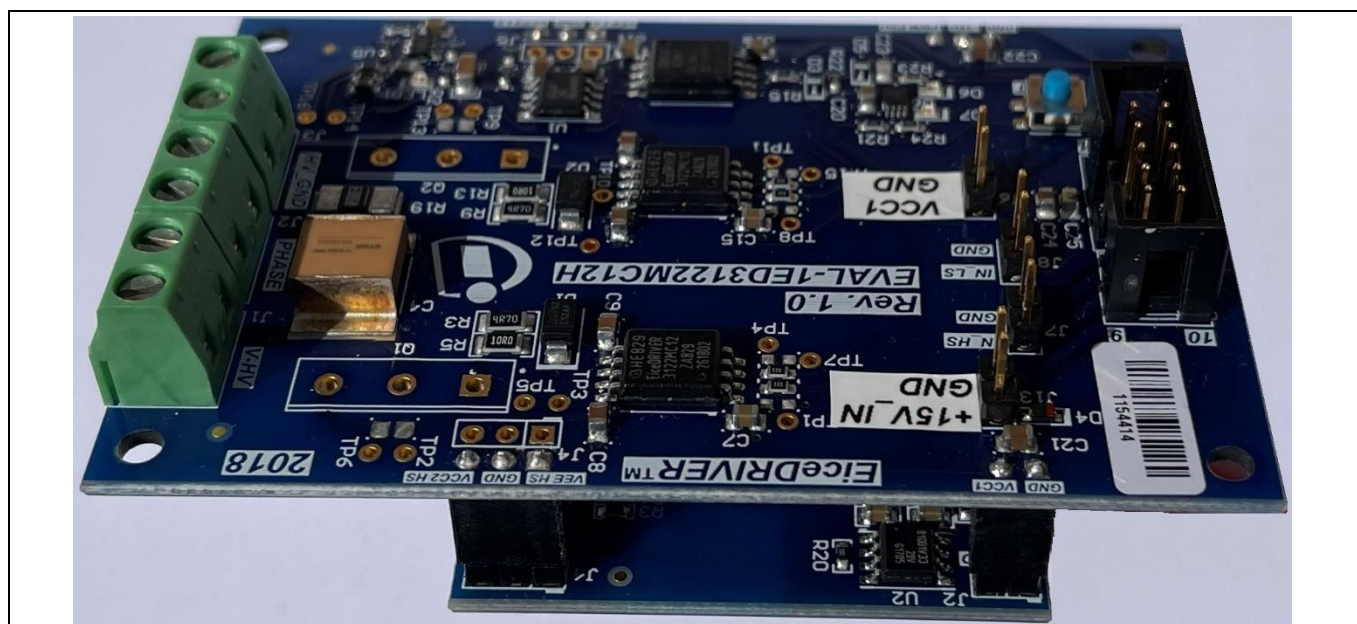
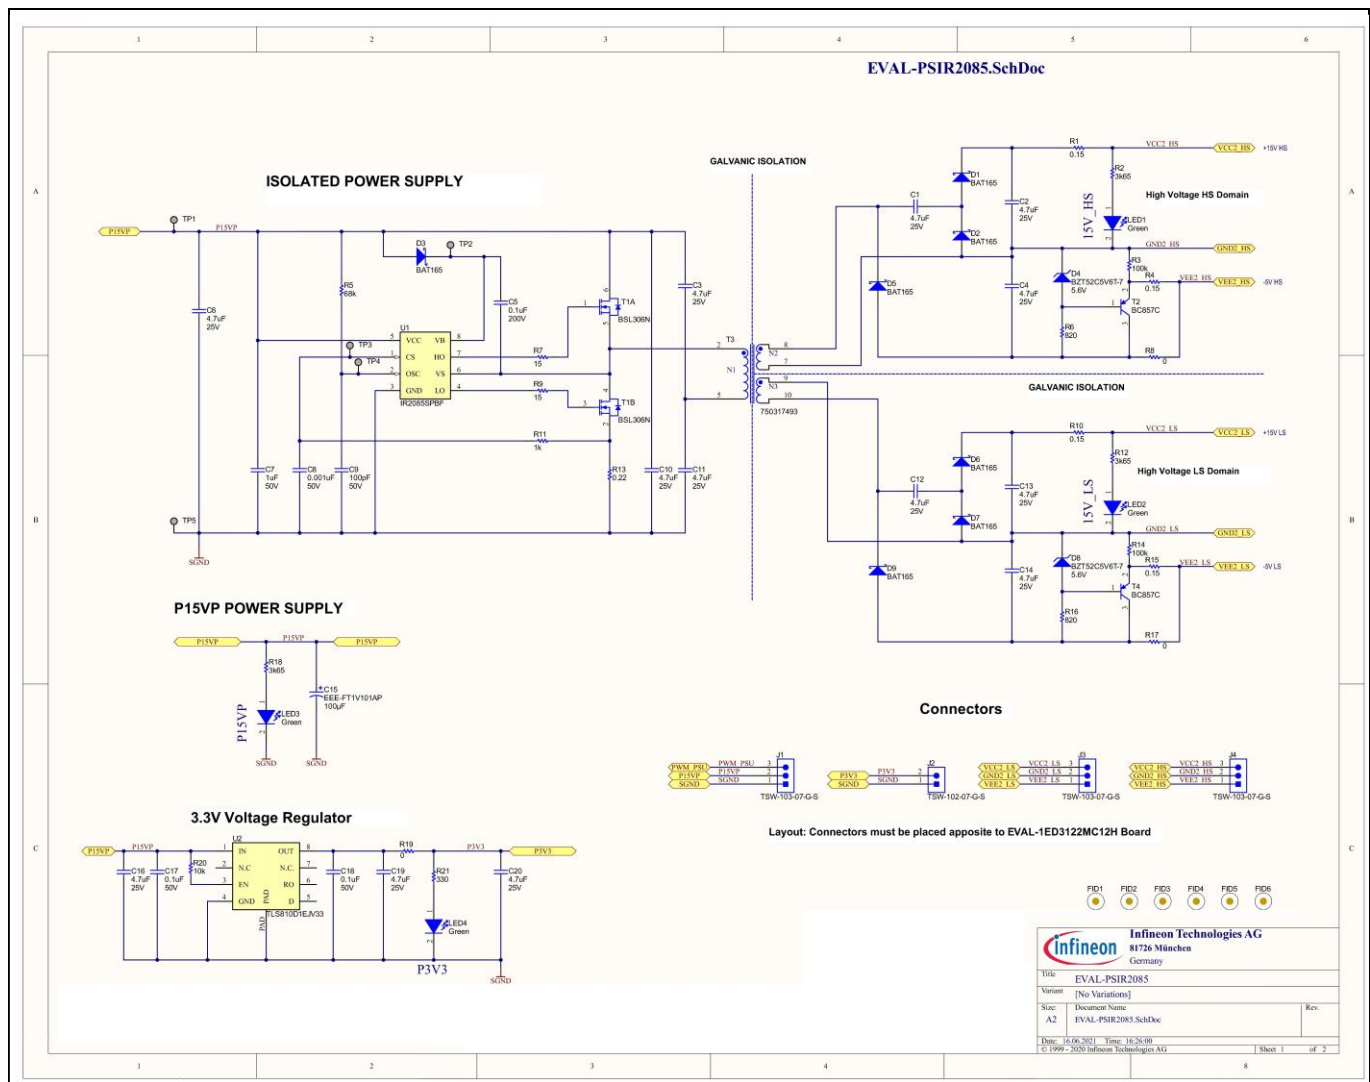
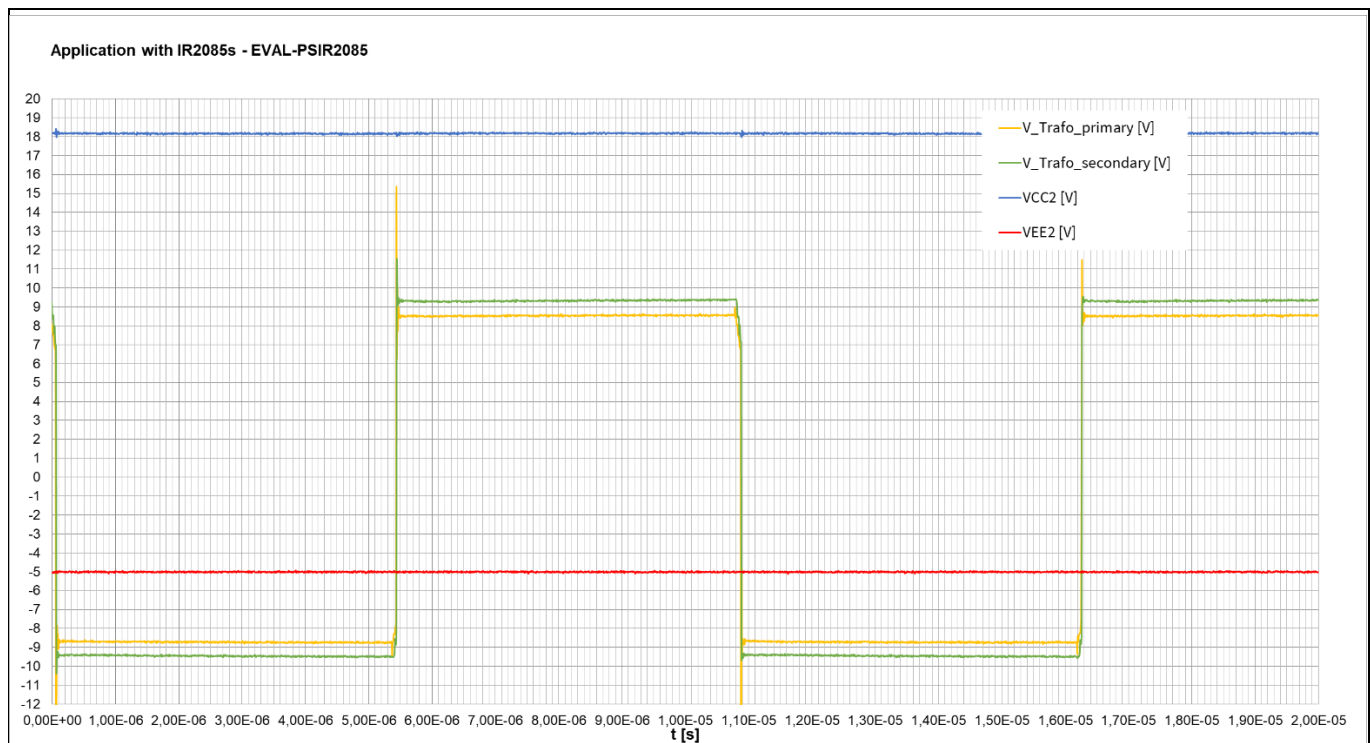

Figure 5 View of complete solution (power supply board + isolated gate driver eval-board)
Figure 8 Drawing of EVAL-PSIR2085
Figure 11 Normal operation of the power supply board
For the combination of power supply board and EiceDRIVER™ isolated gate driver eval-board (see Figure 5), commissioning is very simple. Just connect +15 V and related GND to the connector +15V_IN (please see Figure 3 or Figure 5). This input is directly connected to connector J1 and the isolated gate driver eval-board is now supplied with all necessary electrical voltages.
For a description of the functional blocks of the power supply board EVAL-PSIR2085 please refer to Figure 5. All connections are shown only roughly; the detailed circuit is shown in Figure 8.
The components like transistor T1A, T1B, the transformer T3 and the capacitors C3 and C11 make up a so-called single-ended, push-pull converter. This converter operates the potential-isolating transformer with an alternating voltage in which both half-oscillations are used for energy transmission. The transformation ratio of the transformer from primary winding N1 to secondary winding N2 is approximately one (1:1.07) in this application. The same also applies to the winding ratio of N1 to N3, see Figure 8. Pin 2 of the primary winding N1 is directly connected to the switches. If transistor T1A switches on, the potential of 15 V can be seen. T1B has to be switched off in this case of course. In the second case T1A switches off and T1B switches on, now SGND can be seen on Pin 2. In this case the direction of the current can be changed. Pin 5 of the primary winding N1 is directly connected to the capacitive voltage divider C3 and C11. The potential has approximately half the voltage of VCC (P15VP). If now a pulse sequence is applied in which T1 and T2 open and close alternately, a square-wave signal with the potential of $+0.5 \cdot VCC$ and $-0.5 \cdot VCC$ is created between Pin 2 and Pin 5 (voltage at coil N1). This signal is now transmitted to the secondary coil N2 with the slightly higher potentials, since the transformation ratio is 1:1.07.
The complete circuit of the EVAL-PSIR2085 can be seen in Figure 8. This was developed for a half-bridge application, but, as already described in Chapter 2.2, can also be used for other configurations.
- 2.) Connect a corresponding EiceDRIVER™ isolated gate driver eval-board to the power supply board (see Figure 5)
Figure 8 shows the drawing of the power supply board EVAL-PSIR2085.
Figure 11 illustrates the main functionality of the power supply board. The measurement setup corresponds to that of the circuit in Figure 8, whereby the measurement results were only shown from the low-side output (connector J3).